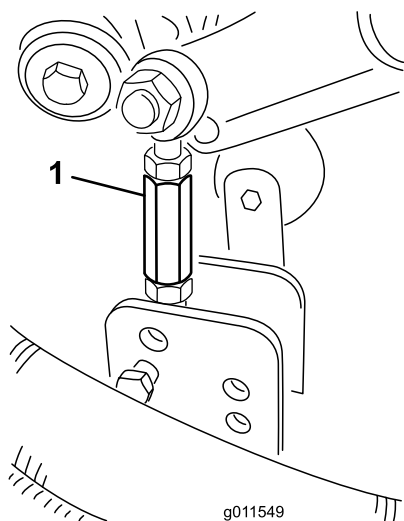

Figure 22
9. Remove the hairpin cotters and clevis pins securing the damper links to the mower-deck brackets (Figure 22).